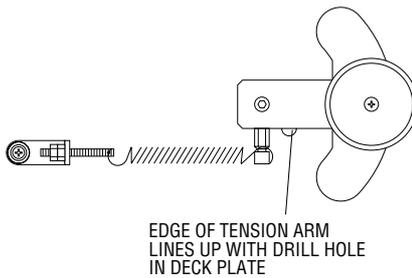

Figure 5-10
2. Adjust VR4 on the REEL CONTROL PCB until the front edge of the take-up tension arm is even with the drill mark in the deck plate, while in LOAD mode. Refer to **Figure 5-10**.